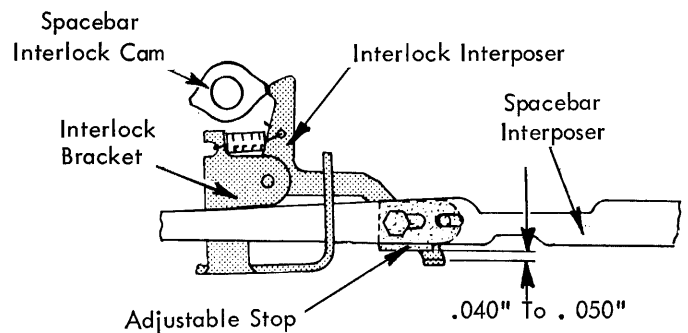

FIGURE 197. Interlock Bracket Adjustment
- b. With the machine latched at rest and the spacebar interposer released to the rear, adjust the interlock bracket front or rear to obtain a clearance of .040" to .050" between the interlock interposer and the adjustable stop on the spacebar interposer (Fig. 197).